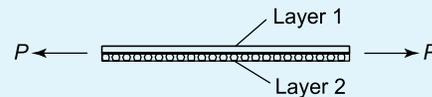

Figure 2.15 Carbon fibre layers
- Two layers of carbon fibre are stuck to each other, so that their fibres lie at 90° to each other, as shown in Figure 2.15. If a tensile force of 1 kN were applied to this two-layer compound bar, determine the stresses in each. For layer 1, $E_1 = 300 \text{ GPa}$ and $A_1 = 10 \text{ mm}^2$